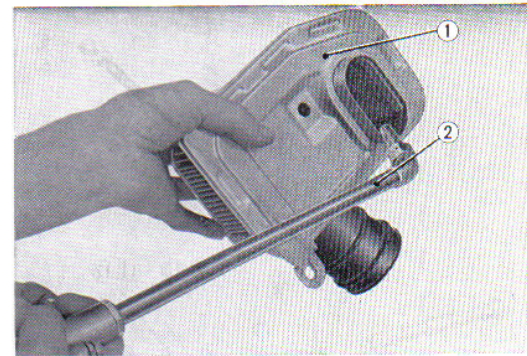

Fig. 4.44 Cleaning the air cleaner
4. Air cleaner which is clogged with dust should be blown off with dry compressed air or cleaned by light brushing. (Fig. 4.44)